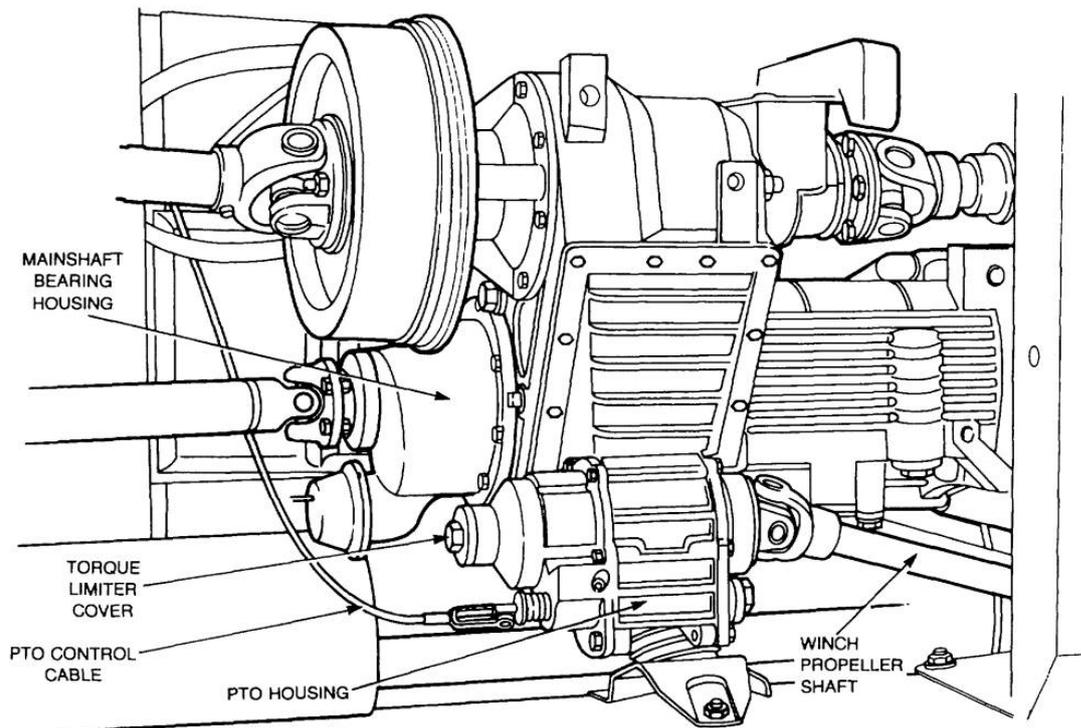

Figure 66 Removal of the Power Take-Off
- c. Ensure that the winch and PTO are disengaged and remove the split pin and clevis pin securing the PTO control cable to the PTO (Figure 66). Discard the split pin.
- f. Remove the propeller shaft and the main shaft bearing housing from the transfer case (Figure 66). Remove the housing and discard the gasket.